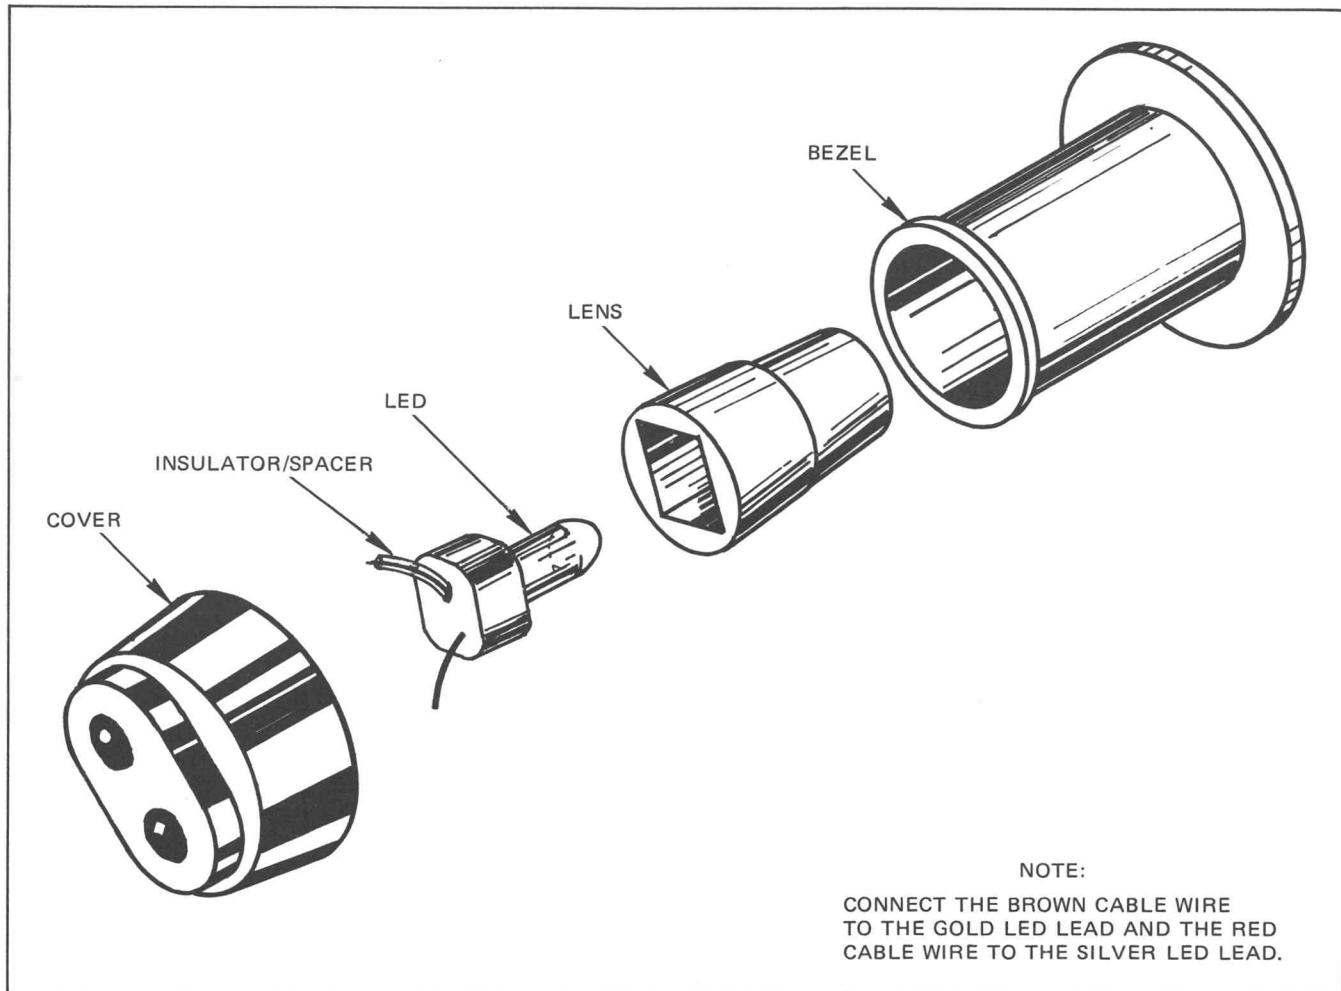

Fig. 4-7. Lead Fault Indicator Lamp assembly.
**LEAD FAULT LAMP REPLACEMENT.** Note the following important considerations, when replacing the LEAD FAULT LED (light emitting diode). See Fig. 4-7.
- f. The lens has a square hole as shown in Fig. 4-7. Be sure to mate the essentially square LED body with it. The LED is in place when it is flush with the lens face.